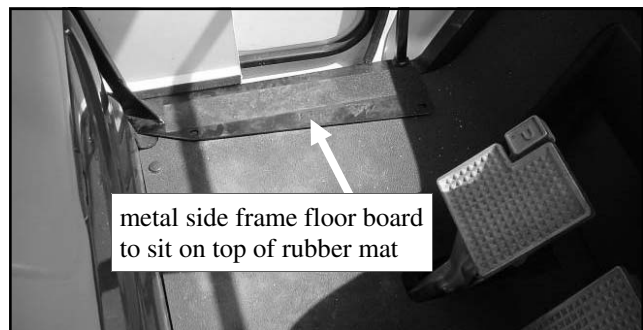

Fig. 2.4 (view from right side)
2.4 Per fig. 2.4, lift and push the side frame floor board in towards the center of the vehicle so the holes line up. Note: the side frame floor board is to be on top of the rubber mat.